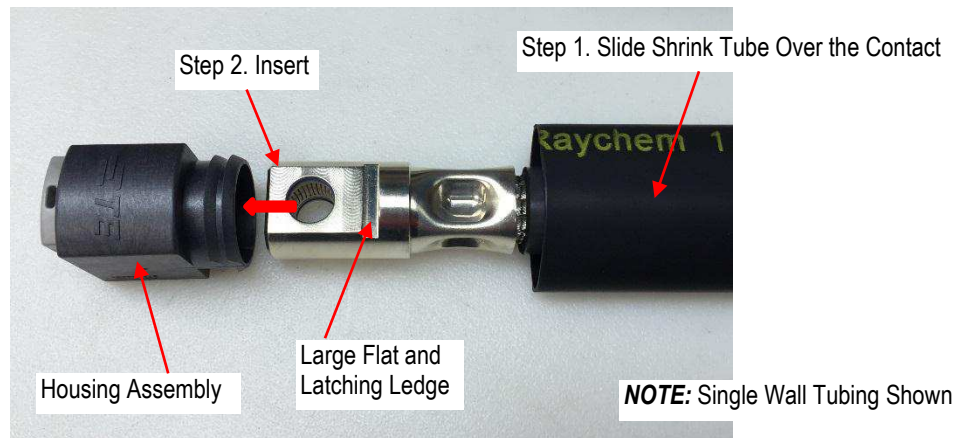

Figure 7
1. Slide the heat shrink tubing over the connector and onto the wire as shown in Figure 7. The shrink tubing must be installed before the housing is on the socket body.
Follow the steps starting with Figure 7 to assemble the new socket housing.